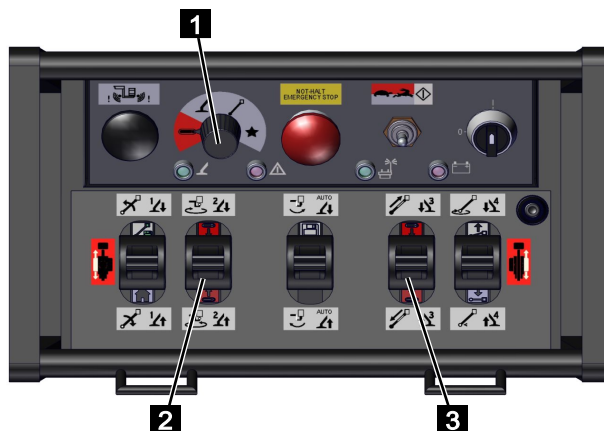

Fig. 137
2. Set the function selector on the radio control to [crawler function] (red) (Fig.137/3).
3. Use the control levers (Fig.137/1 and 2) to operate the crawler chassis as per the following table.